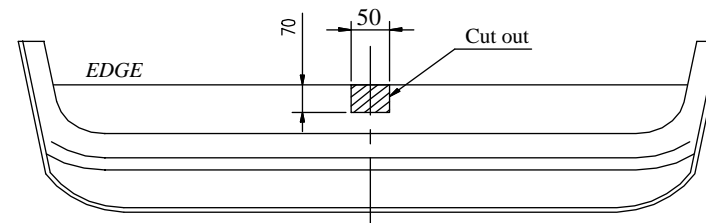

Fig. 2
2. In bottom part of the bumper cut out the hole as show in the fig. 2
4. Put bar of the towbar (pos. 1) into the chassis member and fix with bolts M10x30mm (pos. 7), use big washers  $\varnothing 35 \times \varnothing 12 \times 3$ mm (pos. 11).
5. Put brackets (pos. 4 and 5) to the rear piece and fix it through holes pos. A to the bar of towbar using bolts M8x30mm (pos. 8), use big washers  $\varnothing 25 \times \varnothing 9 \times 2$ mm (pos. 12).
6. Through holes (pos. B) in brackets (pos. 4 and 5) fix nuts M8 with big washers  $\varnothing 25 \times \varnothing 9 \times 2$ mm. Take care at the torque moment - **10 Nm**.
7. Through holes (pos. C) in brackets (pos. 4 and 5) make holes with drill  $\varnothing 9$ mm, and next fix with bolts M8x30mm (pos. 8).
8. Fix tow-ball (pos. 2) and socket plate (pos. 3) by bolts M12x75mm (pos. 6) from accessories.